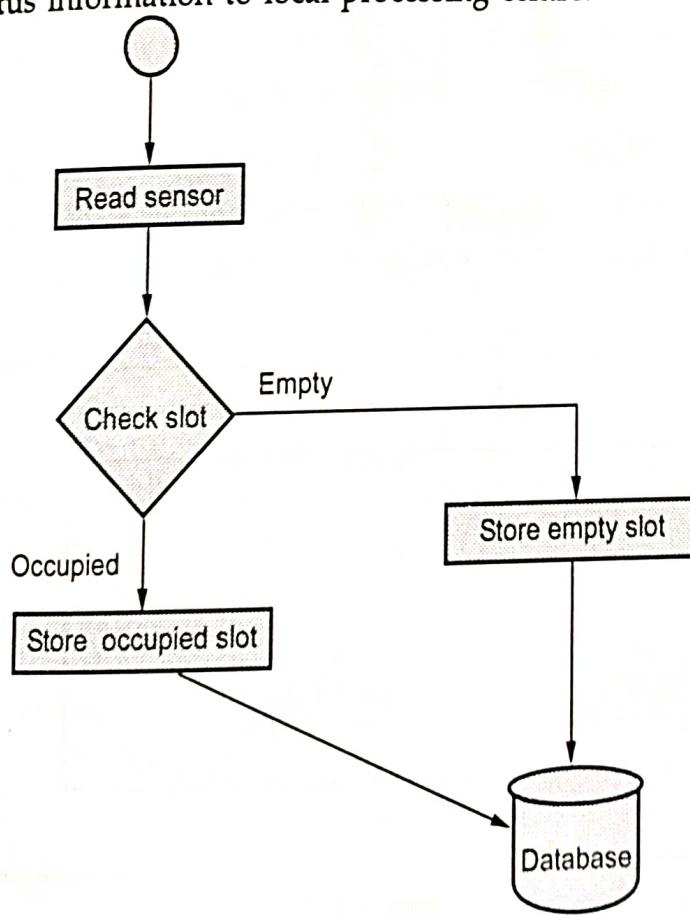

Fig. 4.6.2 Process specification for smart parking IoT system
- Local controller collect the information and send to server using Internet. Fig. 4.6.2 shows process specification for smart parking IoT system.